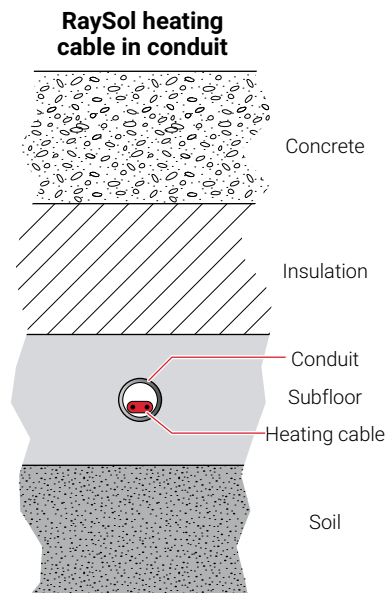

Fig. 1 Typical freezer frost heave installation
- The heating cable is located in a sub-slab underneath the insulation. (see Fig. 1)